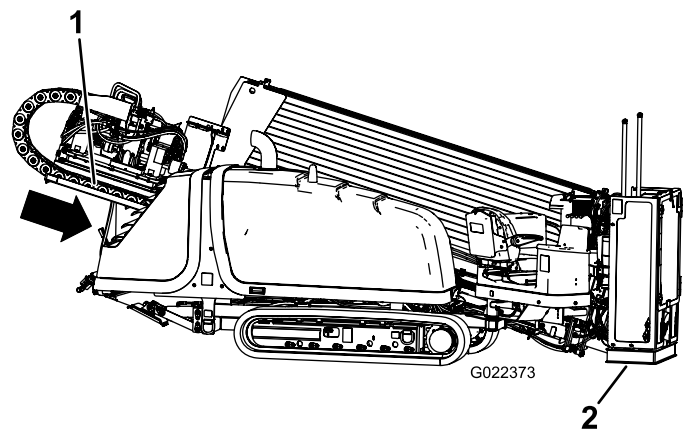

Figure 80
9. Lower the thrust frame, tilting the drill frame until the plate contacts the ground (Figure 80).